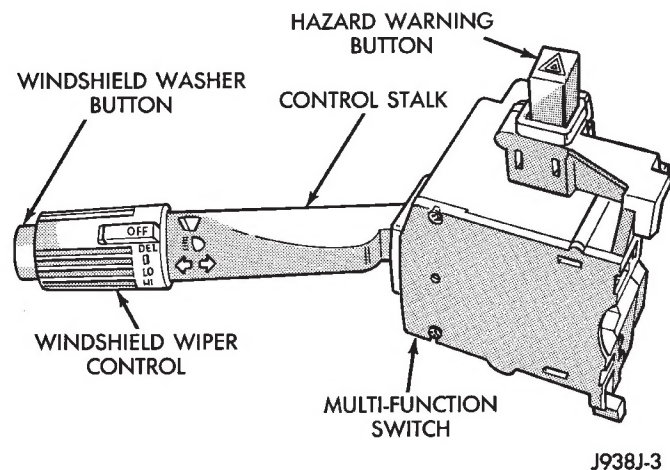

Fig. 13 Multi-Function Switch
- (9) Remove multi-function switch tamper proof mounting screws (tamper proof torx bit Snap On TTXR20B2 or equivalent required).
- (10) Gently pull switch away from column. Loosen connector screw. The screw will remain in the connector.
- (11) Remove wiring connector from multi-function switch (Fig. 13).